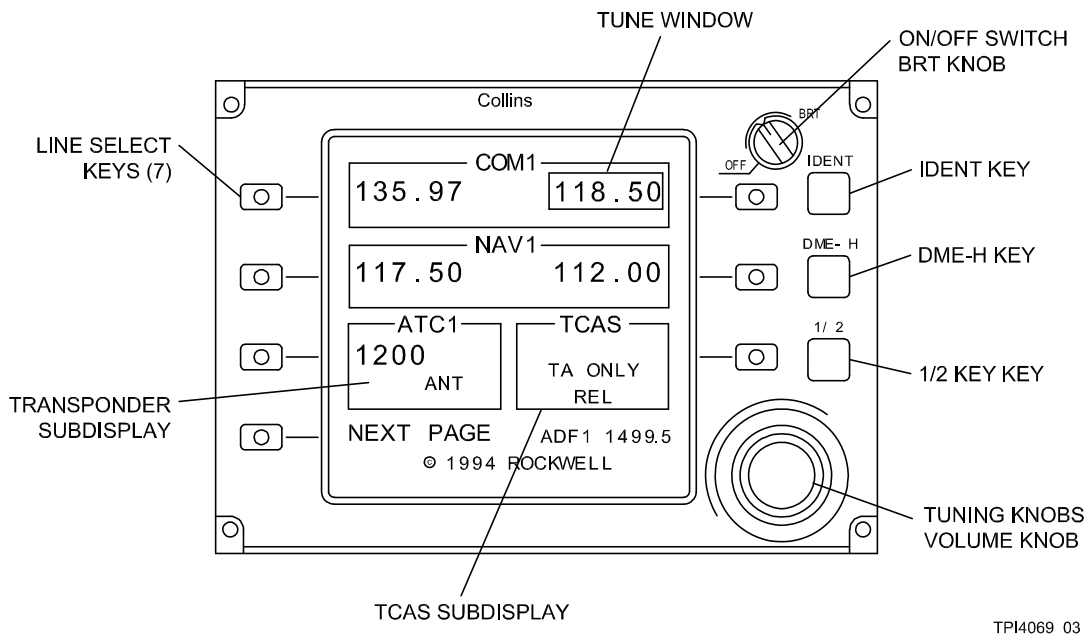
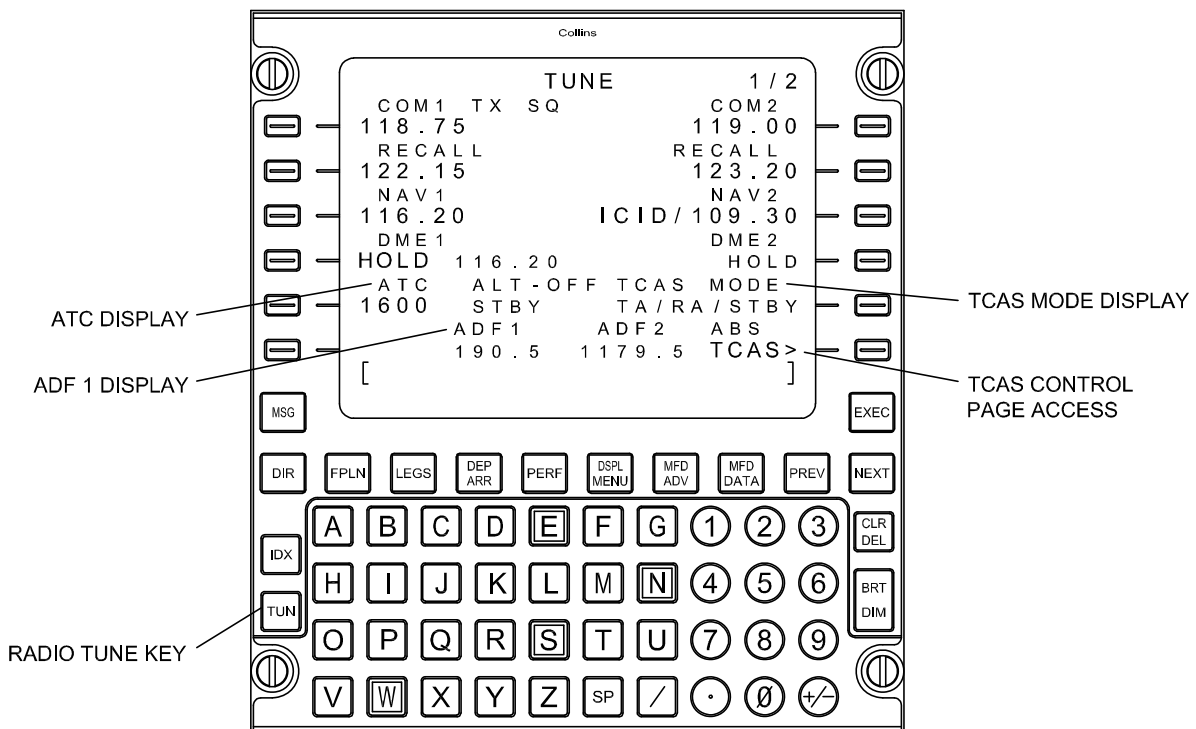
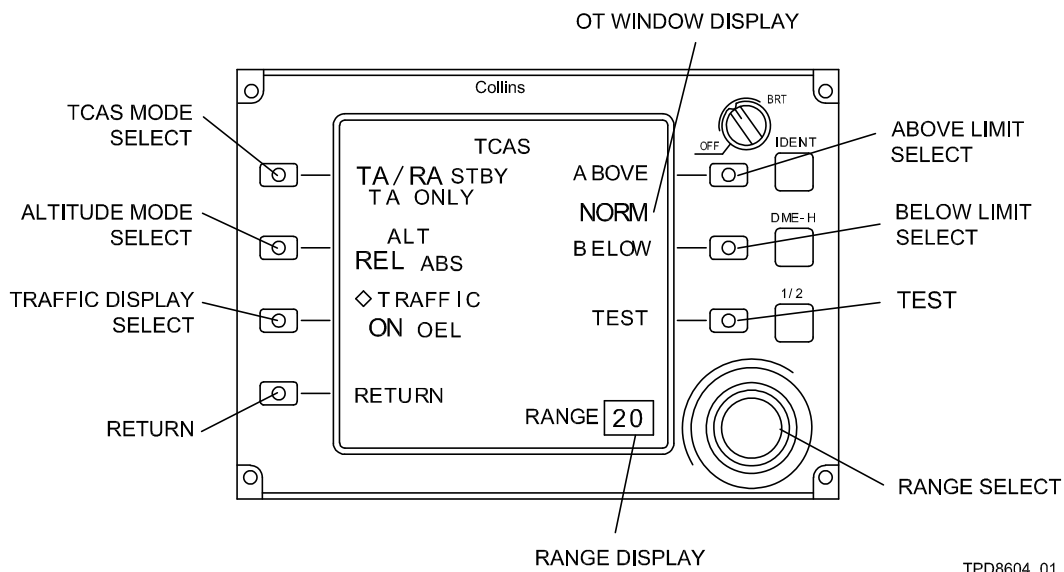
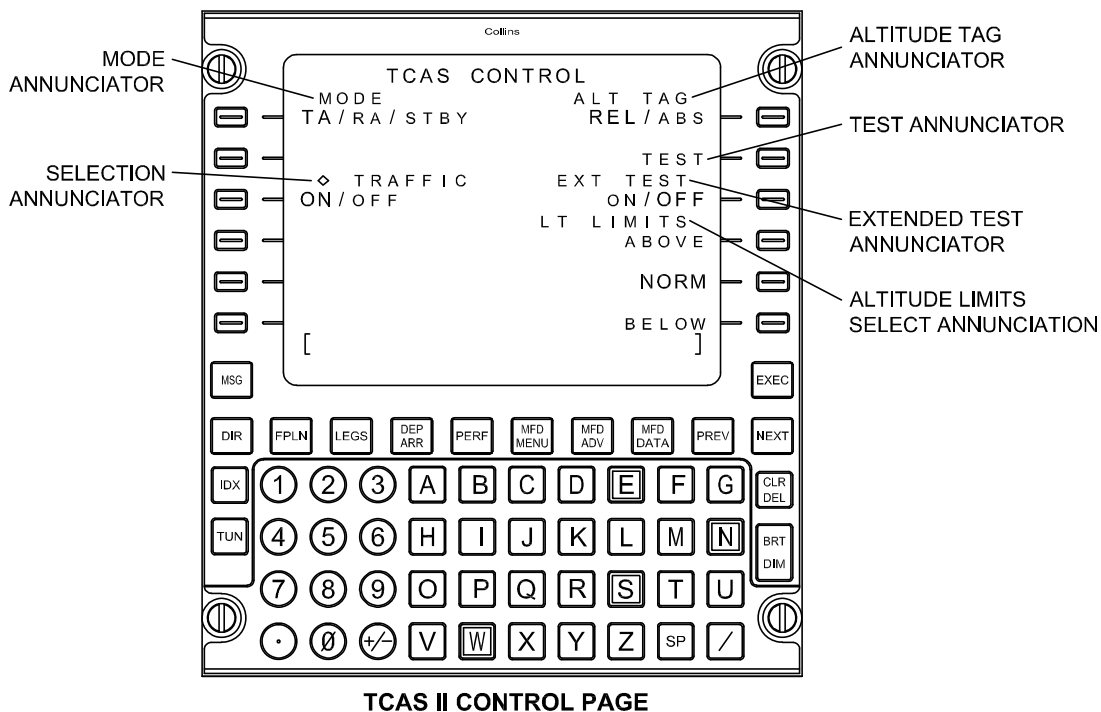

Figure 3-4. Top Level Radio Tuning Page, RTU-42XX Radio Tuning Unit
Figure 3-5. Top Level Radio Tune Page, CDU-62XX Control Display Unit
Figure 3-6. TCAS Page, Radio Tuning Unit (RTU-42XX)
Figure 3-7. TCAS Page, Control Display Unit (CDU-62XX)
| <p>LINE SELECT KEYS</p> <p>TCAS SUBDISPLAY (RTU) or TCAS MODE DISPLAY (CDU)</p> <p>TCAS CONTROL PAGE ACCESS (CDU only)</p> <p>ATC DISPLAY (CDU only)</p> <p>TUNE WINDOW (RTU only)</p> <p>TUNING KNOBS (RTU only)</p> <p>VOLUME KNOB (RTU only)</p> <p>IDENT KEY (RTU only)</p> | <p>Refer to Figure 3-4 for the top level radio tune page on an RTU. Refer to Figure 3-5 for the top level radio tune page on a CDU.</p> <p style="text-align: center;">NOTE</p> <p>Some of the controls listed are optional and may or may not be included depending on the installation.</p> <p>The RTU and CDU have several panel mounted line select keys. These are used to select control of individual radio frequencies, presets, codes, and modes.</p> <p>Displays various TCAS operating modes and selections.</p> <p>Push the TCAS line key to view the ATC/TCAS CONTROL page. Refer to Figure 3-7. The selected TCAS altitude display format ABS (Absolute) or REL (Relative) also shows above the TCAS legend.</p> <p>Set the active ATC beacon code by keying the desired beacon code onto the scratch pad line. Then push the ATC line key to transfer this code to the selected field. If the beacon code is valid, it shows in the data field, and the active transponder immediately responds to the new beacon code. ALT OFF is shown to the right of the ATC legend when reply Mode A is selected. STBY shows when standby is selected. REPLY shows when the active TDR replies to an interrogation. IDENT shows when the IDENT line key on the ATC/TCAS CONTROL page is pushed and the active TDR transmits. The digit to the right of the ATC legend shows which transponder is active.</p> <p>The tune window surrounds the item selected for control.</p> <p>The tuning knobs are used to set the value shown in the tune window. When a frequency, code, or mode is shown in the tune window, the large tuning knob controls the most significant digits, and the small tuning knob controls the least significant digits.</p> <p>If present, the volume knob is the third (smallest diameter) knob on the knob cluster. As the volume knob is rotated, a volume scale is displayed adjacent to the selected radio.</p> <p>Push the IDENT function key to transmit an Air Traffic Control (ATC) identification pulse. When the ident feature is active, ID is shown in cyan on the ATC sub-display and on the ATC main display page.</p> |
| <p>TCAS CONTROL page</p> <p>MODE ANNUNCIATOR or MODE SELECT line key</p> <p>ALTITUDE TAG ANNUNCIATOR or ALTITUDE MODE SELECT line key</p> <p>TEST ANNUNCIATOR and line key</p> <p>ALTITUDE LIMITS SELECT line keys and OT WINDOW DISPLAY</p> | <p style="text-align: center;">NOTE</p> <p>Some of the controls listed are optional and may or may not be included depending on the installation.</p> <p>Refer to Figure 3-6 for a typical TCAS Page on an RTU.</p> <p>Refer to Figure 3-7 for a typical TCAS Page on a CDU.</p> <p>Push the TCAS line key on the top level CDU (or RTU) page to select the TCAS CONTROL page.</p> <p>Push the MODE line key to toggle through the TCAS modes:</p> <ul style="list-style-type: none"> • TA/RA (Traffic and Resolution Advisories) • STBY (Standby) • TA ONLY (Traffic Advisories Only). <p>The active mode is shown in cyan and in large letters. Open-diamond traffic is other traffic. RA traffic, TA traffic, and proximate traffic may still show.</p> <p>Push this line select key to toggle between the altitude modes. The available modes are Relative (REL) and Absolute (ABS).</p> <p>Push the TEST line key to initiate the TSS self-test routines. When self test is active, TEST is annunciated in cyan and in large letters for approximately 10 seconds. When TSS self test is initiated, the ATC self test is also initiated.</p> <p style="text-align: center;">NOTE</p> <p>If an extended test is an option, push and hold the TEST line select key to initiate the extended self test.</p> <p>Push the ABOVE, NORM, or BELOW line key to select the altitude range of the traffic protection window. The active altitude volume limit of Other Traffic (OT) is shown in cyan and in large letters.</p> <p style="text-align: center;">NOTE</p> <p>If there is no NORM line key between the ABOVE and BELOW line keys (for example, on the RTU shown), then NORM is selected when neither ABOVE nor BELOW are selected.</p> <p>The altitude limit defines a volume of vertical air space relative to the aircraft. Intruders into this volume are tracked and considered potential threats. When NORM is selected, the protection volume is 2700 feet above and 2700 feet below the aircraft. When ABOVE is selected, the protection volume is 9900 feet above and 2700 feet below the aircraft. When BELOW is selected, the protection volume is 2700 feet above and 9900 feet below the aircraft. When ABOVE and BELOW are both selected, the protection volume is 9900 feet above and 9900 feet below the aircraft.</p> |